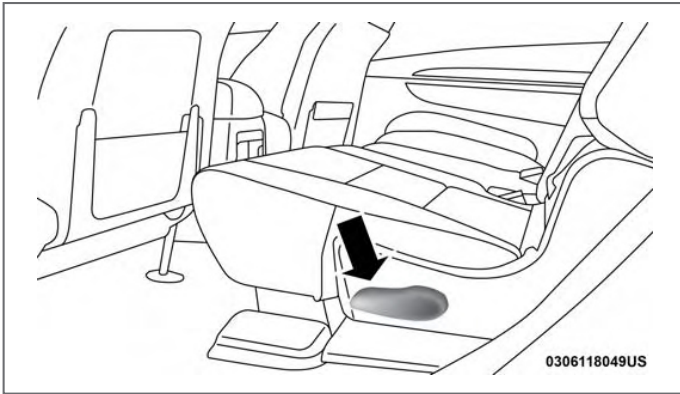

FIG. 2a Release Lever
B. Fold rear seat back down and tumble seat assembly forward by pulling the release lever, then using the tumble strap behind seat back. (See Fig. 2a, 2b & 2c)